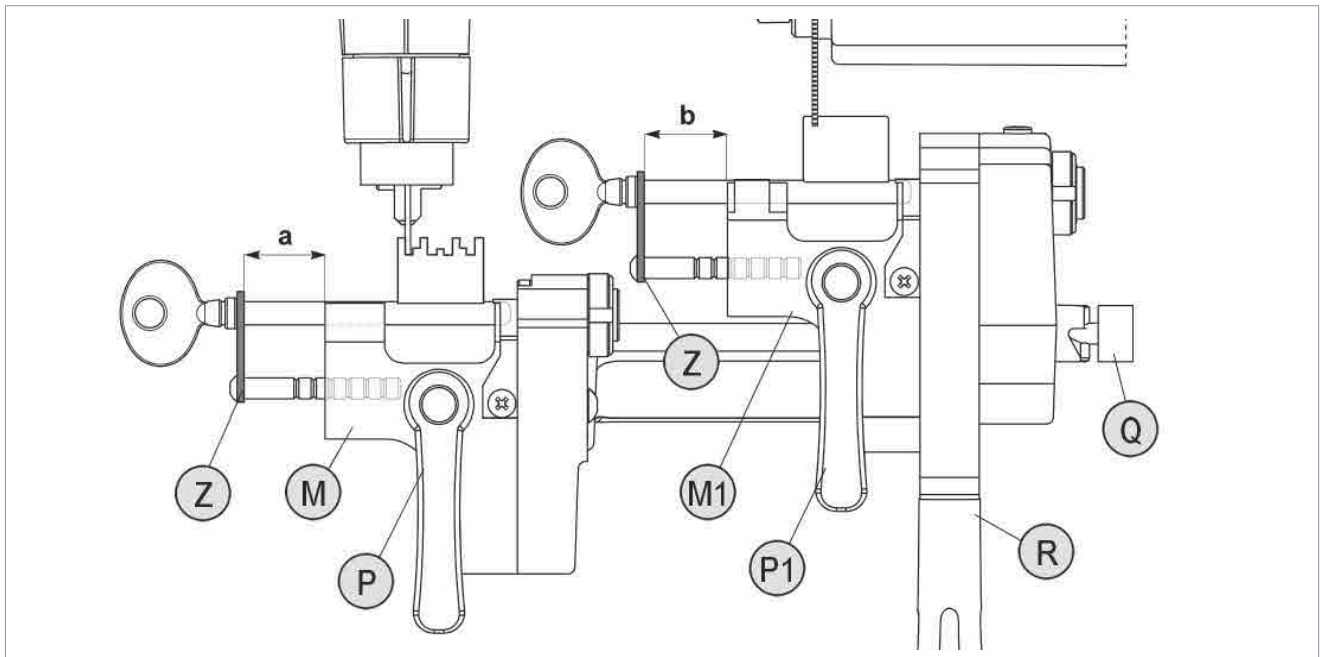

Fig.50
- visual, to position the keys on the same notch. The 2 pins-gauges (Z) must show the same number of clicks/grooves.
- 1) Use the lever (Q) to lock the right-hand clamp in the horizontal position.
- 2) Fit the keys into the clamps, moving them to the right until the rear stop goes up against the (Z) (Fig.50). The spacing on the gauge set (Z) must be the same for both clamps ($a = b$).